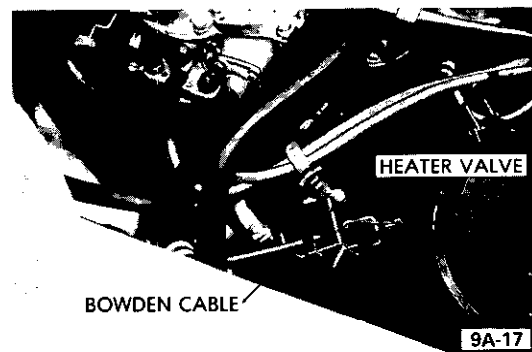

Figure 9A-17 Heater Valve
3. Loosen heater hose clamps and remove valve from hoses. See Figure 9A-17.